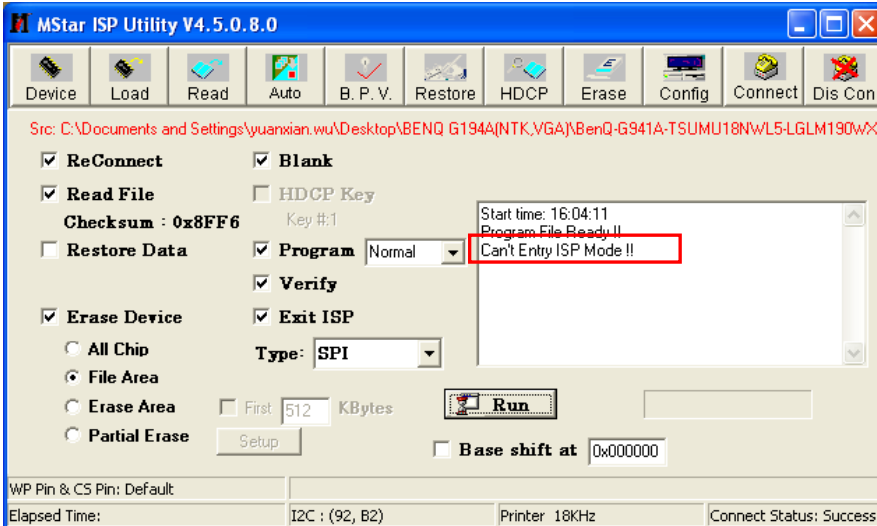

Fig15
5.1. When click the “run”, but can’t entry ISP mode as fig15.